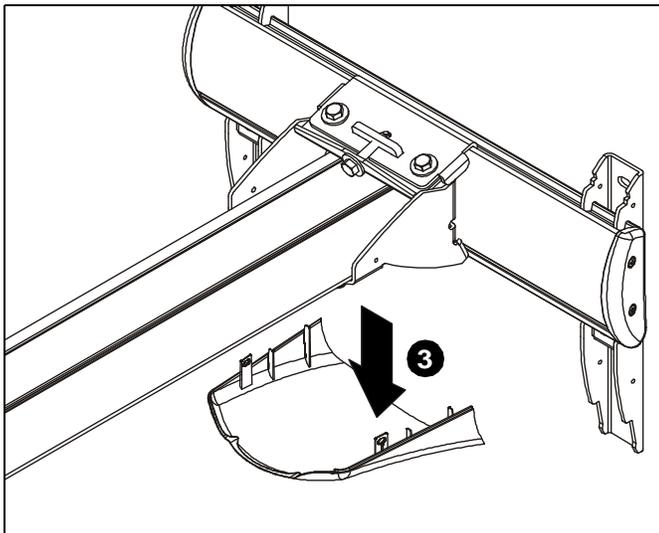

Figure 5
3. Remove lower cover from mount. (See Figure 5)